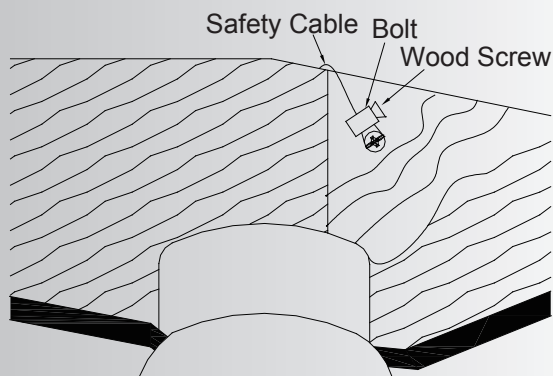

Fig. 7
Step 2. Insert the safety cable through the mounting bracket and one of the holes in the outlet box into the ceiling. Adjust the length of the safety cable to reach the screw and washers by pulling the extra cable through the cable clamp until the overall length is correct, put the end of the cable back through the cable clamp, forming a loop at the end of the cable. Tighten the cable clamp securely. Now, put the loop in the end of the safety cable over the wood screw and under the washer. Tighten the wood screw securely. (Fig. 7)